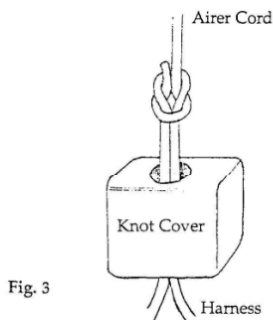

Fig. 3
2. Push centre of harness up through small hole in bottom of wooden knot cover (fig. 3).
3. Tie one end of long ainer cord to centre of harness using "reef knot" as illustrated (fig. 3) and locate knot in knot cover.